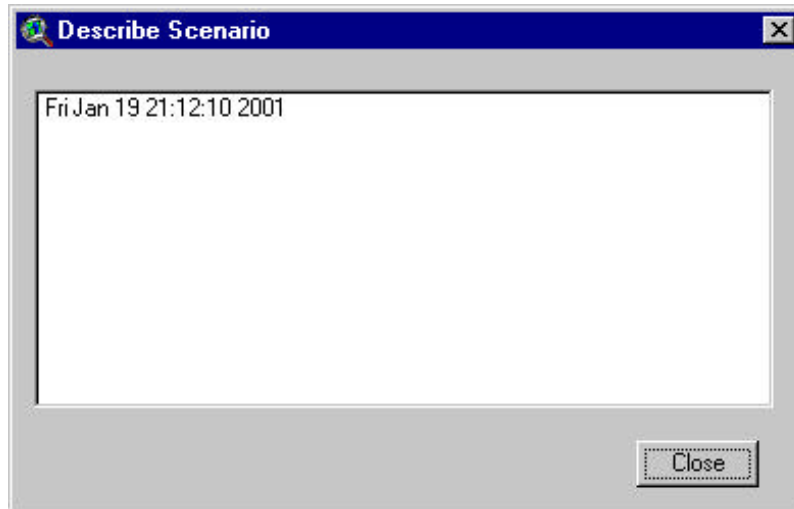

Figure 13.41
15. Click **No** to skip this option. Click **Yes** to write a note. If the user clicks **Yes**, a text box is displayed (Figure 13.41).